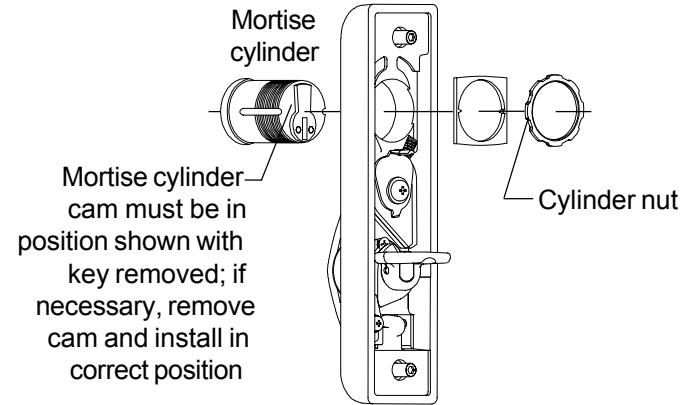

Figure 2. Cylinder installation.
6. Install cylinder, if used, in control (Figure 2).